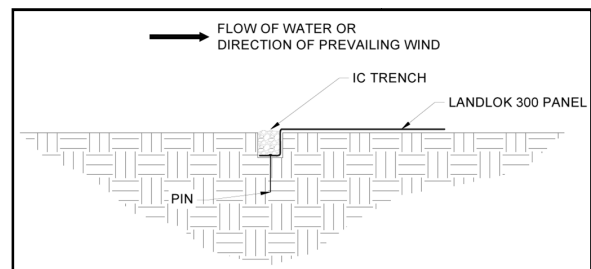
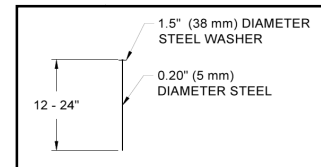

Figure 5: Initial Channel (IC) Trench Placement
Figure 6: Securing Pin
3. Place the Landlok 300 roll ends in the IC trench, ensuring full coverage along the bottom of the entire IC trench with the Landlok 300 (Figure 5).
4. Secure Landlok 300 with pins in the IC trench (Figure 5). Pins should be made of steel with a 0.20 in (5 mm) minimum diameter, having a 1.5 in (38mm) diameter washer at the head, and a length between 12 and 24 in (300-600 mm) with sufficient ground penetration to resist pullout (Figure 6). Longer pins may be required for looser soils. Heavier metal stakes may be required in rocky soils. Suggested placement of pins for the IC trench is along the bottom of the trench with pins on 12 in (300 mm). Pins should also be installed on panel edge overlaps in the IC trench.
5. Backfill and compact the IC trench in the location of the center Landlok 300 panel only (Figure 5).